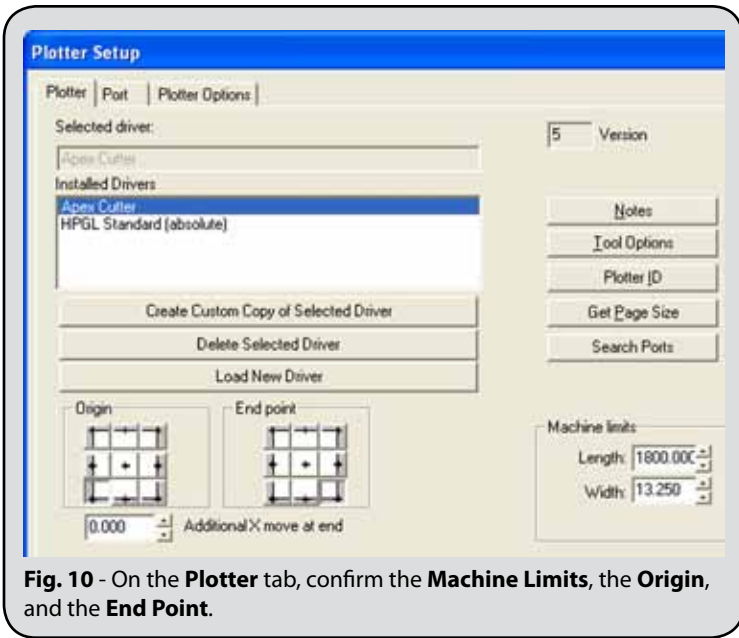

Fig. 10 - On the **Plotter** tab, confirm the **Machine Limits**, the **Origin**, and the **End Point**.
13. On the **Plotter** tab, confirm that the **Machine Limits** are correct (Fig. 10).